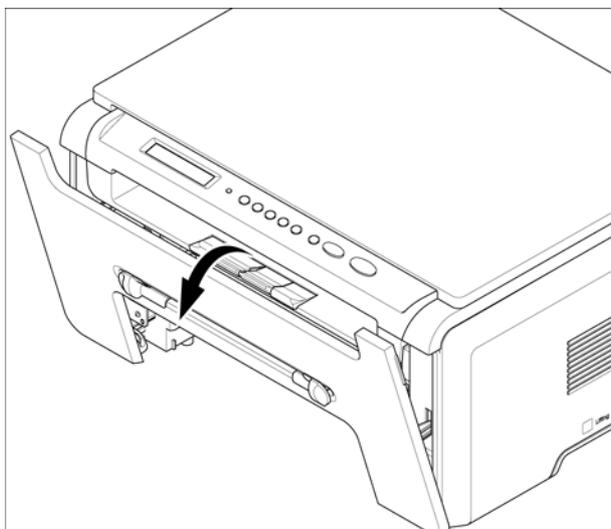

Figure 2
2. Open the front cover, Figure 2.